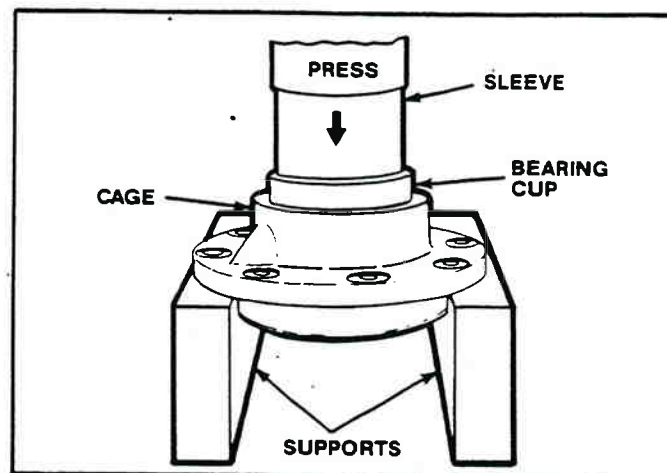

Figure 2-40. Pressing In Bearing Cup.
1. Put the bearing cage in a press (Figure 2-40).
3. Press the bearing cup into the bore of bearing cage until cup is flat against bottom of bore. Use a sleeve of the correct size to install bearing cup (Figure 2-40).